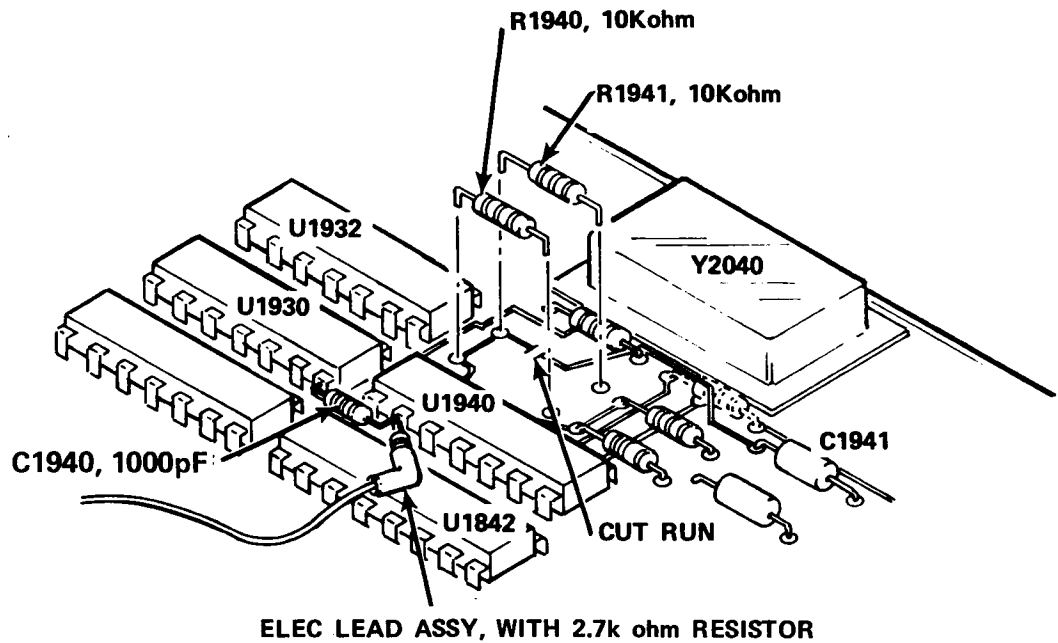

Figure 11. - R1941 & C1941, & cut ckt bd run.
- ( ) 21. On the front (component) side of the circuit board remove a section of the circuit board run connecting R1941 to C1941, refer to Figure 11.
- ( ) 28. Solder one lead of C1940, 1000pF, capacitor, pn 281-0812-00, to pin 7 of U1930. Solder the remaining end of C1940 to pin 2 of U1940, refer to figure 11.
- ( ) 29. Solder the electrical lead, assembly, pn 196-3227-00, that is provided in this kit, to pin 2 of U1940, refer to figure 11.